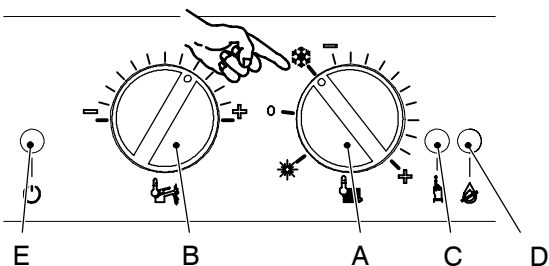

Fig. 20
- 10 Turn the boiler OFF and ON positioning the function selector knob A as indicated in Fig. 20